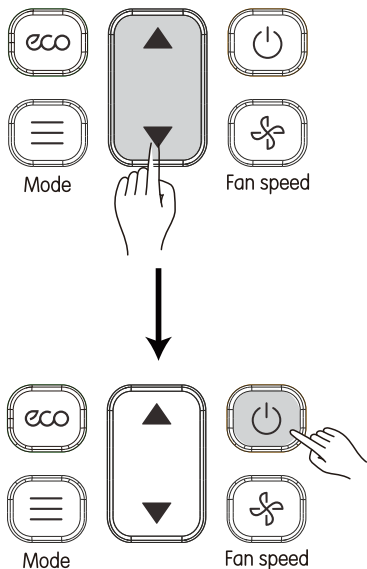

Figure 4.5
② Press  and  to adjust the parameter value;
③ Once the adjustment is done, press  or wait for 5 seconds to save the parameter settings. The operation sequence for the button is as shown in Figure 4.5.